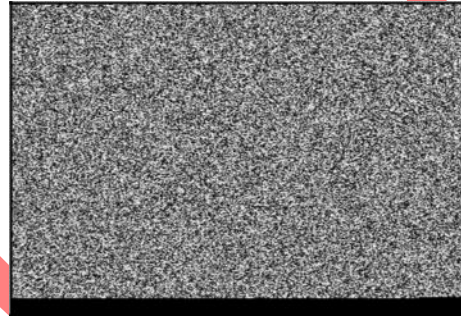

Figure 5
1. Coat threads of pipe with Valve Guide Lubricant #93963. Thread pipe into cylinder head exhaust port (A, Figure 5).
2. Coat exposed threads of elbow with Valve Guide Lubricant #93963. Install elbow (B) on pipe (C) and tighten securely with outlet straight out from cylinder head.